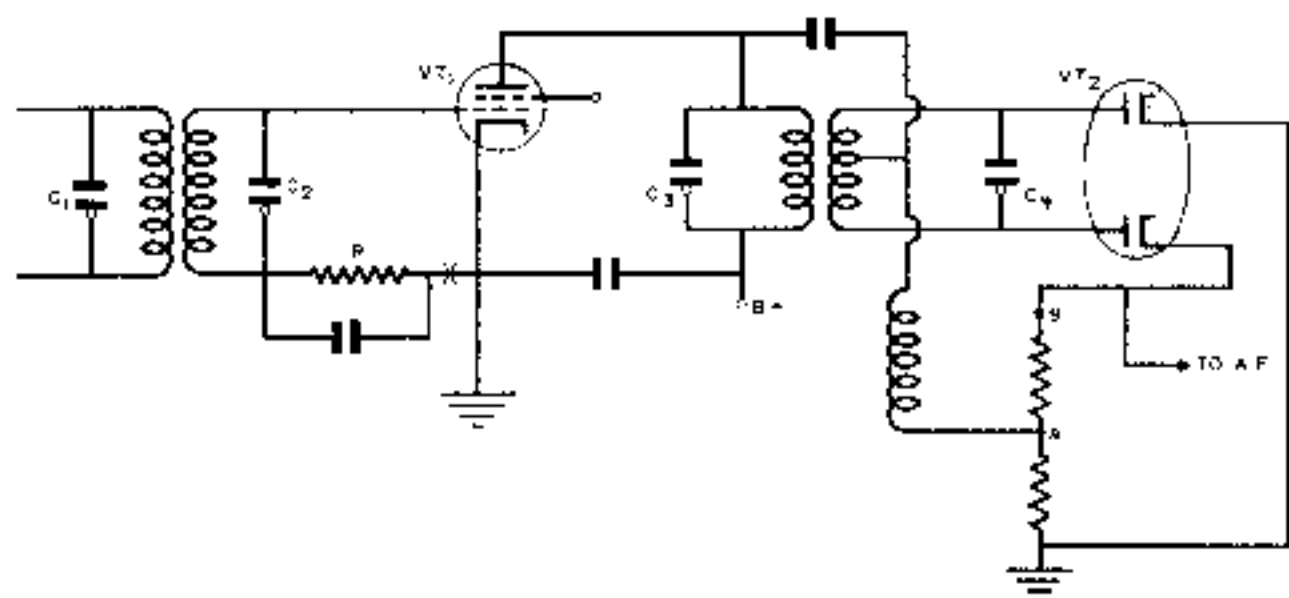

FIGURE 25
A typical limiter and discriminator stage in an FM receiver is shown in Fig. 25. The output indicator should be a microammeter having a range of about 120 microamperes. It is inserted in the grid return circuit at the point marked "X" and it should be by-passed by a .05 mfd. condenser.
The signal generator is tuned to the i.f. resting frequency of the set; this is generally 10.7 megacycles. Use an unmodulated r.f. signal. Adjust the i.f. trimmers for maximum output meter reading. Reduce the signal generator output if the grid current exceeds the range of your output indicator. When you align the limiter input circuit be sure that at least 50 microamperes are flowing before making final adjustment of trimmers corresponding to C1 and C2 of Fig. 25.
You are now ready to adjust the output circuit of the limiter and the input circuit of the discriminator. Leave the signal generator connections and its frequency setting just as they were for the limiter and the i.f. adjustments. You will need either a vacuum tube voltmeter or a high resistance multimeter as an output meter. (1) Connect your meter between point A and ground in Fig. 25, with the negative probe at point A. (2) Then adjust condenser C3 for a maximum meter reading. (3) Remove the meter probe from point A and connect it to point B, so the meter is between B and ground. (If the meter should read off-scale to the left, reverse the meter polarity.) Now, adjust condenser C4 for minimum reading on the output meter. Theoretically, the voltage between B and ground should decrease to zero. If it does not, the adjustment for minimum reading is acceptable.